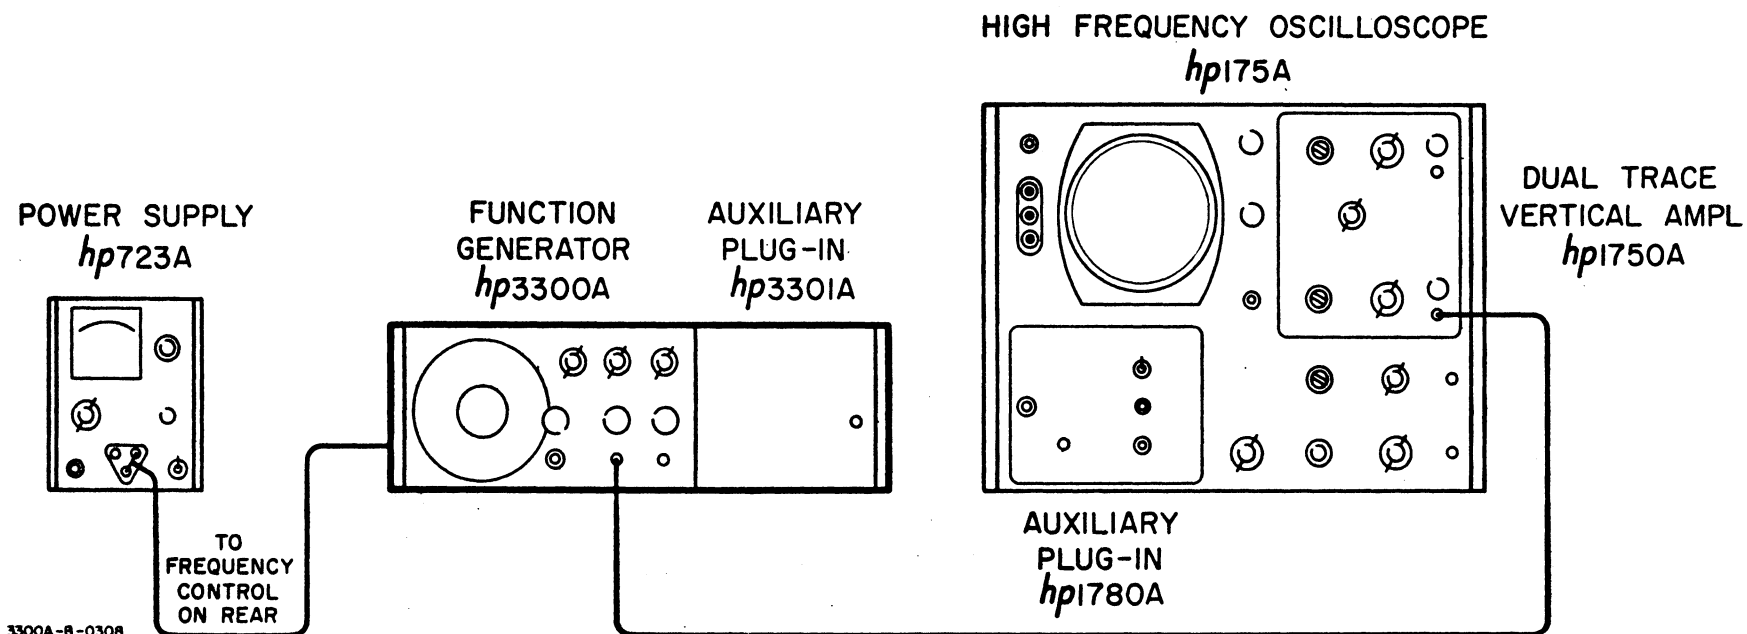

Figure 5-2. Remote Frequency Control Test Setup
- b. Connect the instruments as shown in Figure 5-2.